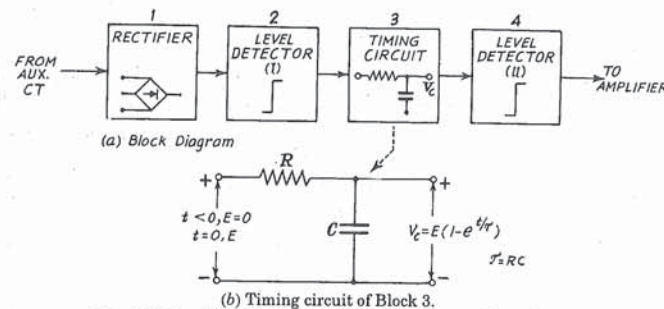

Fig. 40.6. Function of timing circuit in overcurrent time relay. (Ref. Fig. 40.5).
$RC = \tau$  = Time constant of RC circuit where  $R$  is Thevenins equivalent resistance viewed from capacitance. (Ref. Fig. 40.6)
Consider timing circuit (Fig. 40.6). When the output of rectifier reaches a threshold value, the level detector (1) gives output ray  $E$  (at  $t = 0$ ). Before  $t = 0$ , the output of level detector (1) zero and there is no input to timer. As the level detector (2) acts voltage  $E$  is applied to timer. The capacitor starts getting charged. The voltage  $V_c$  increases exponentially. Suppose  $V_T$  is the threshold value of the level detector (4). Time required to reach this voltage depends upon time for charging the capacitor  $C$  given by,